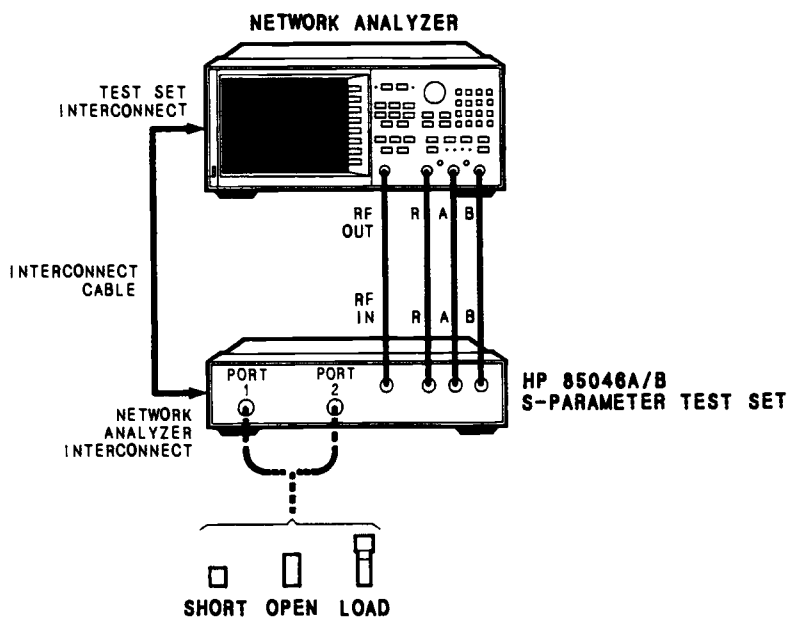

Figure 4-5. Source Match Test Setup
1. Connect the test set to the network analyzer as shown in Figure 4-5, turn on the analyzer and press **[PRESET]**. Allow 30 minutes for warm-up.